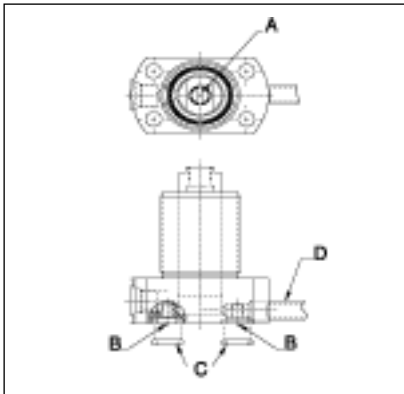

Figure 2
2. Install the work supports by either threading into the fixture, using the accessory jam nuts, or bolting the flange onto the fixture. Mount the work support so that the plunger is at the approximate middle of its stroke when contacting the workpiece in the fixture. If the work support is to be hydraulically manifold mounted to the fixture through the bottom port, the port screw plugs and copper gaskets must first be removed (see item B, Figure 2). Lubricate the provided o-rings and install them (see Figure 2) in the counterbore around the port prior to mounting and bolting down the work support. Be sure that the o-rings do not get pinched or damaged during this mounting as leakage could result. To ensure that the manifold mounting does not leak, provide a fixture mounting surface with flatness within .003 inch (0.08 mm) and a surface roughness not to exceed 32 uin. rms. (Ra 0,8).
- When there is a risk of machining coolants, debris, and chips entering the cylinder via the breather vent (see Figure 2), plumb into the vent port with a line which runs to an area protected from chips, coolant, etc.